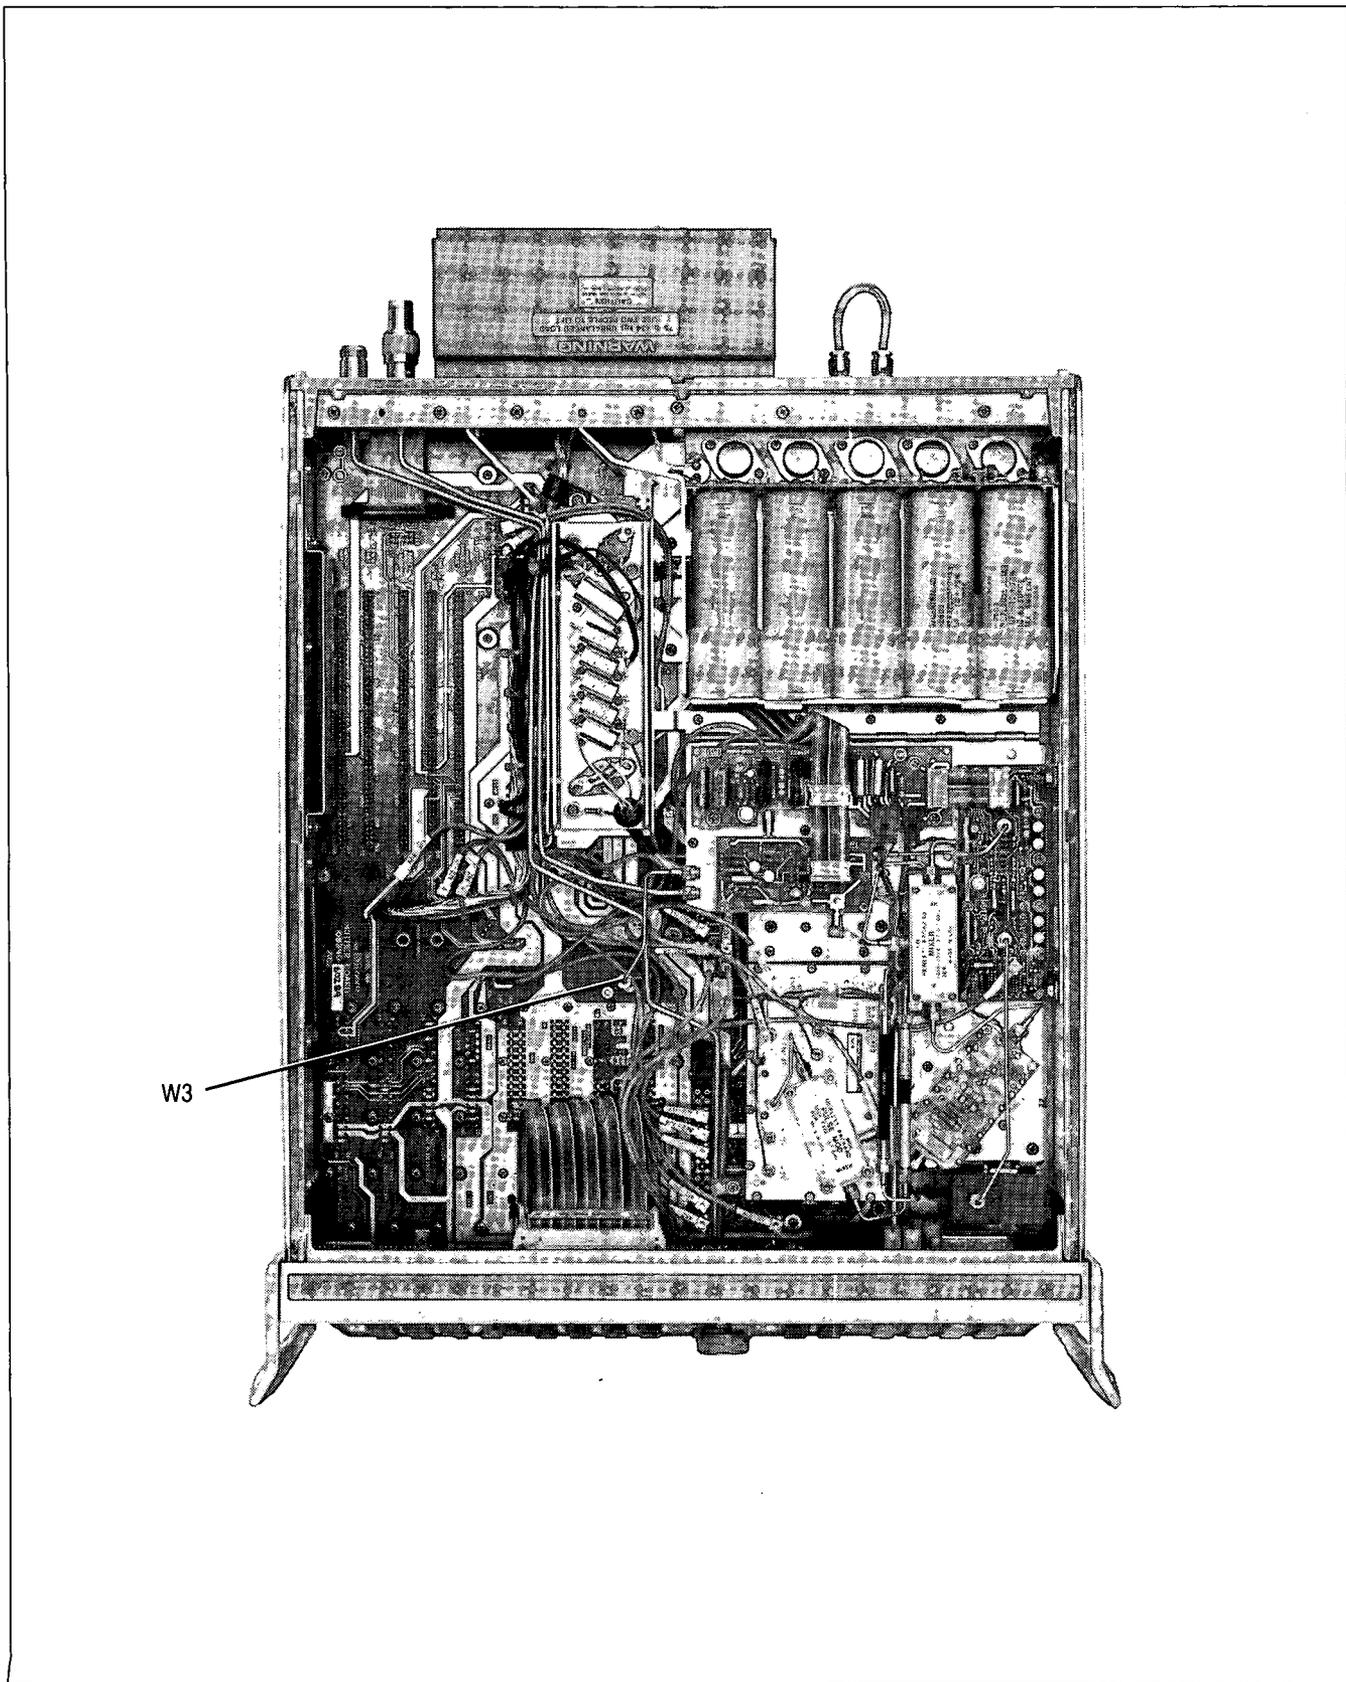

Figure D-8. W3 Connection
1. Remove the top and bottom covers from the instrument. Place the instrument so that it is in its normal operating position. Refer to Figure D-8, W3 Connection.